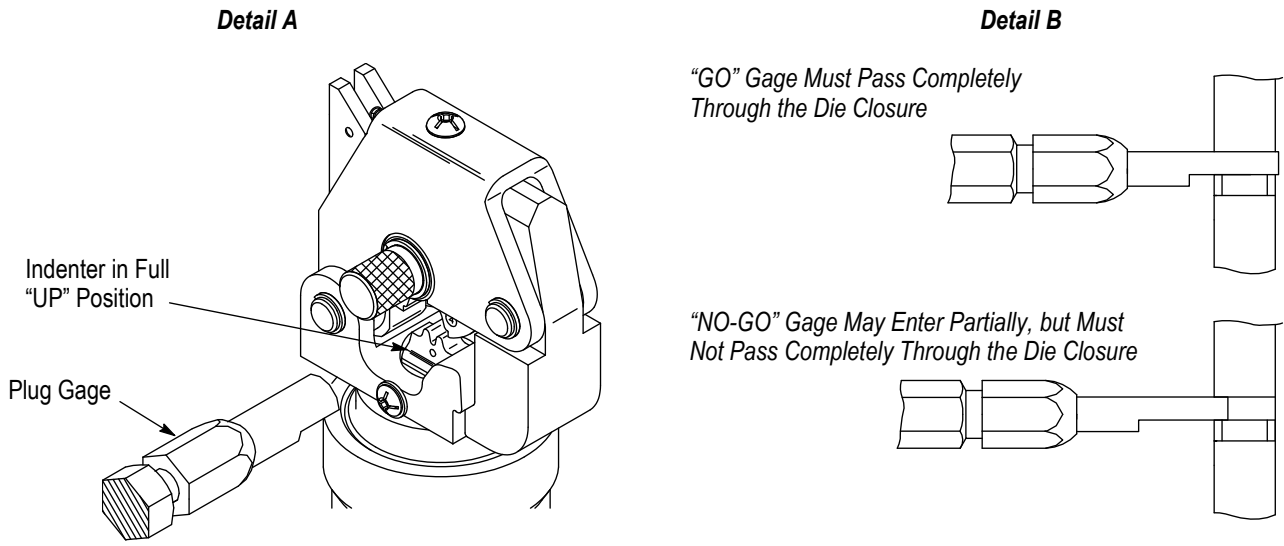

Figure 9
2. Lock the desired nest in the crimp position and raise the indenter to the full UP position, as shown in Figure 9, Detail A.
3. With the indenter positioned at the full UP position, inspect the die closure using the appropriate plug gage. Hold the gage in alignment with die closure and carefully insert, without forcing, the GO member. See Figure 9. The GO member must pass completely through the die closure as shown in Figure 9, Detail B.
4. Try to insert the NO-GO member. The NO-GO member may enter partially, but must NOT pass completely through the die closure. See Figure 9, Detail B.